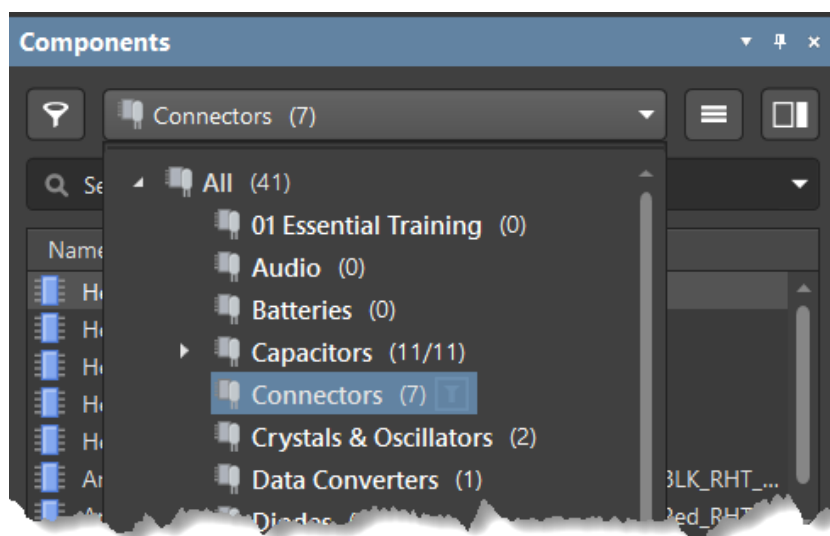

Figure 8. Select the Miscellaneous Connectors library
14. Select the category `Connectors` from the drop-down list of libraries at the *Components* panel, as shown in Figure 8 below.